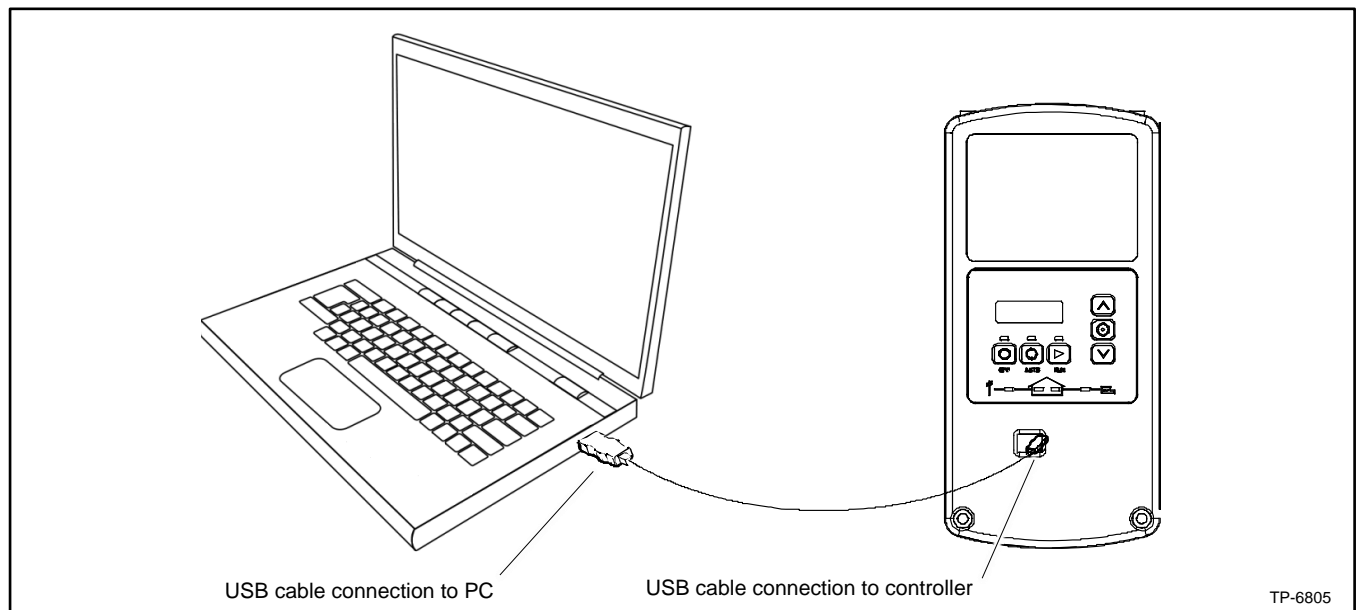

Figure 32 Controller Connection to a Laptop Computer through the USB Port
2. Use a USB cable to connect the controller to a USB port on your PC. See Figure 32 for the connection.